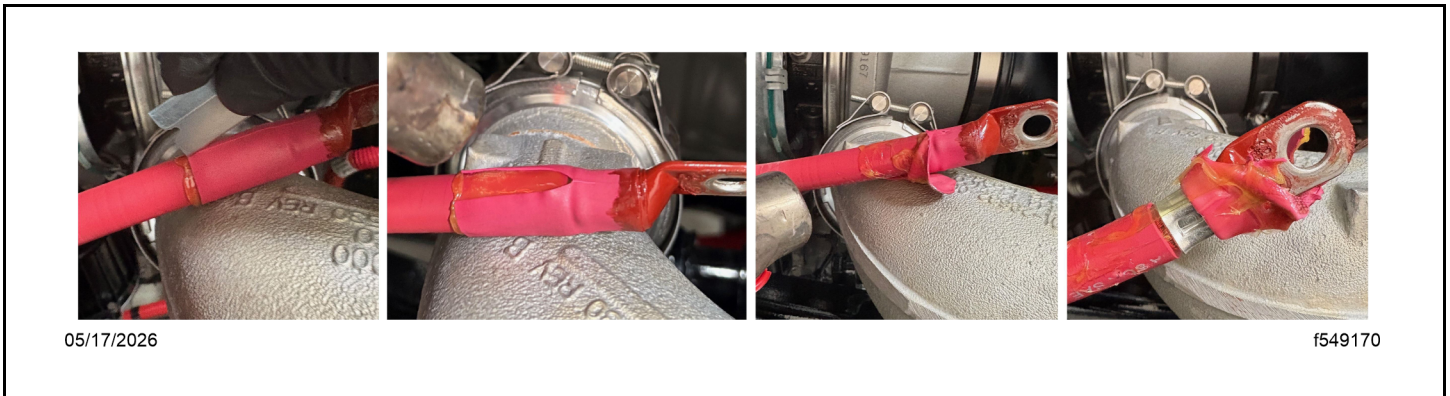

Fig 102, Heat Shrink Removal
- b. Remove the original heat shrink. To do so, heat it, score it, and continue to heat it until the score splits and the adhesive softens. See Fig. Fig. 102.